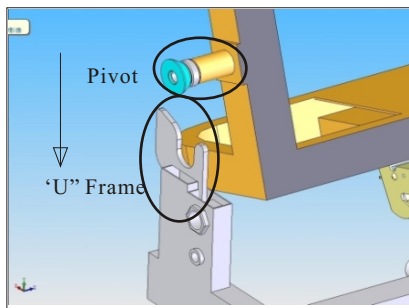

Fig.2
3. The discharge pump kit is made to fit onto the pedicure unit. (see fig 2)
- * Align both pivots correctly so they rest perfectly onto the “U”pivot frame (Fig.2)
- * Figure 2: Close-up view of pivot and “U” pivot frame.